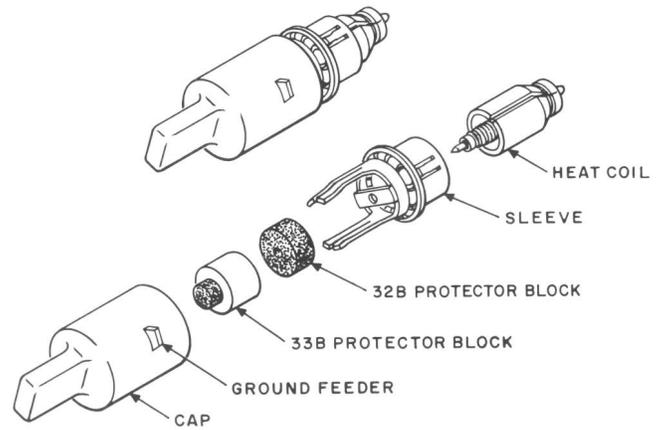

Fig. 2—1A1-Type Protector Unit and Components
3.04 Disassemble the protector unit by holding the cap in one hand and the sleeve (Fig. 2) with the other hand. Withdraw the sleeve (containing the heat coil and protector blocks) from the cap.
3.10 Place the protector blocks in the sleeve of the protector unit (Fig. 2) before the heat coil is installed.